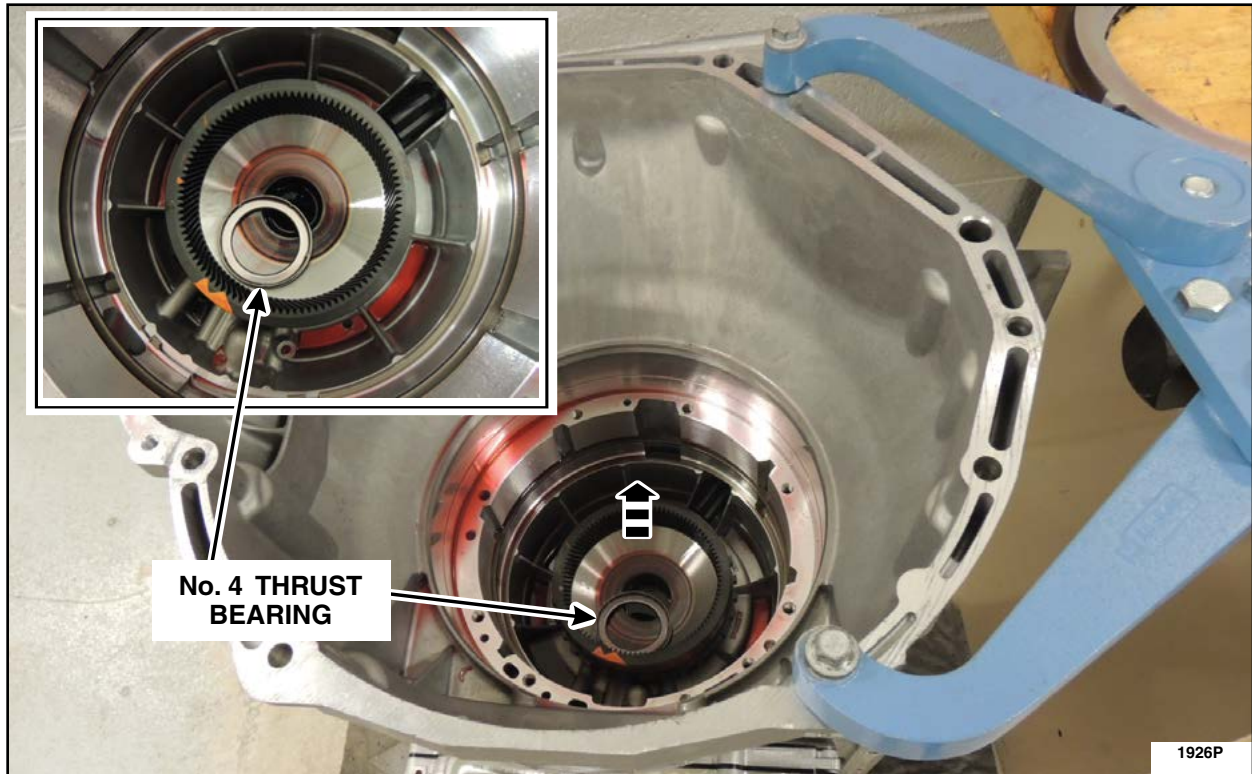

FIGURE 16
15. Remove the No. 4 thrust bearing. See Figure 16.